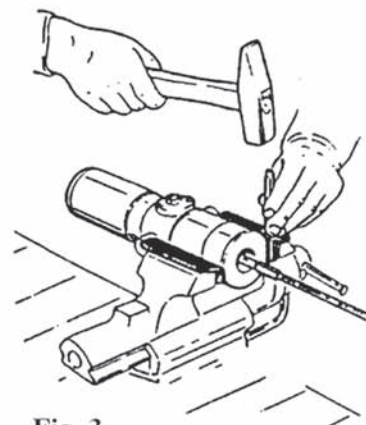

Fig. 3
Far uscire le spine elastiche (51) come indicato in Fig. 3.
*Remove the lockpins (51) as indicated on Fig. 3.*
*Using now an hexagonal wrench 14 mm, clamp the hexagonal nut (50) and using an hexaxonal wrench 10 mm unscrew the nut (67). Remove the shank (52) or (53) or (54) according to the pump model.*